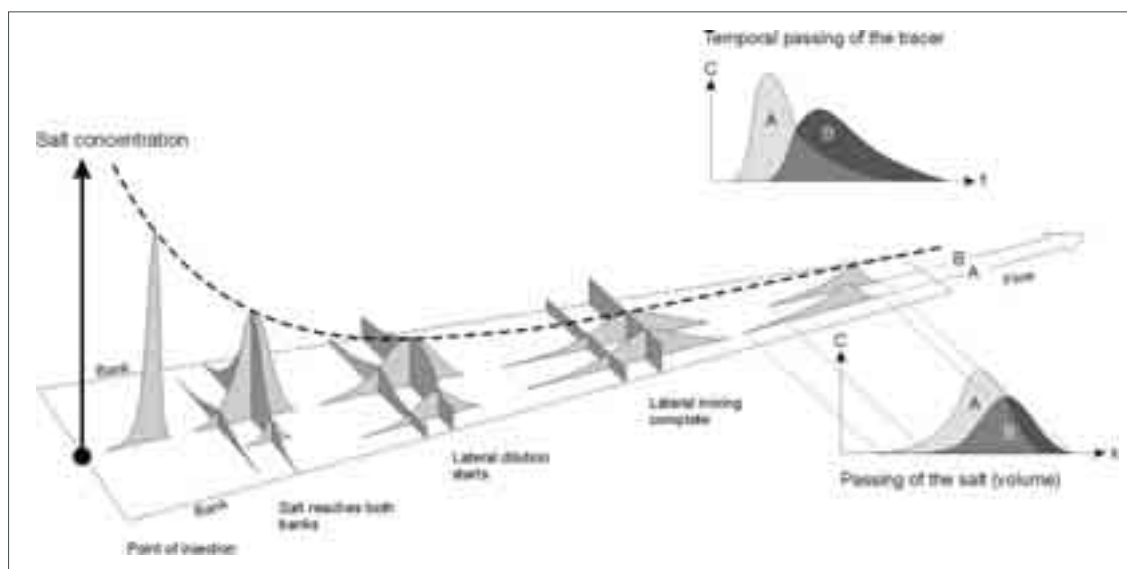

Figure 1: Mixing conditions in a stream (adapted from Wolf 1998)
Figure 1 shows the dilution conditions along a stretch of water after salt has been injected. At the beginning, the salt cloud is compact and the salt is unevenly distributed. With increasing distance from the injection point, the salt becomes evenly distributed throughout the cross-section of the watercourse and eventually reaches an optimal and even degree of dilution. It is at this point that the concentration should be measured.
The result of the conductivity field measurements in the stream is a concentration-time diagram at the measurement point as shown in Figure 1. Discharge is determined by integrating the area below the curve using the following equation
5. **Select the measurement length** – The next step is to identify the part of the stream along which the discharge is to be measured. The length of stream from the point of injection to the point at which the salt becomes fully mixed across the stream profile is known as the mixing length. A length of stream needs to be identified equal to the mixing length (as shown in Figure 1) that has no eddies with back flow effects or pools or ponds; no water extractions or inflows; and is not influenced by hanging vegetation. It should also be as short as possible (equal to the mixing length). A simple rule of thumb is to take a length 20-50 times the average width of the stream, or 100 times the width of the narrowest part of the stream.